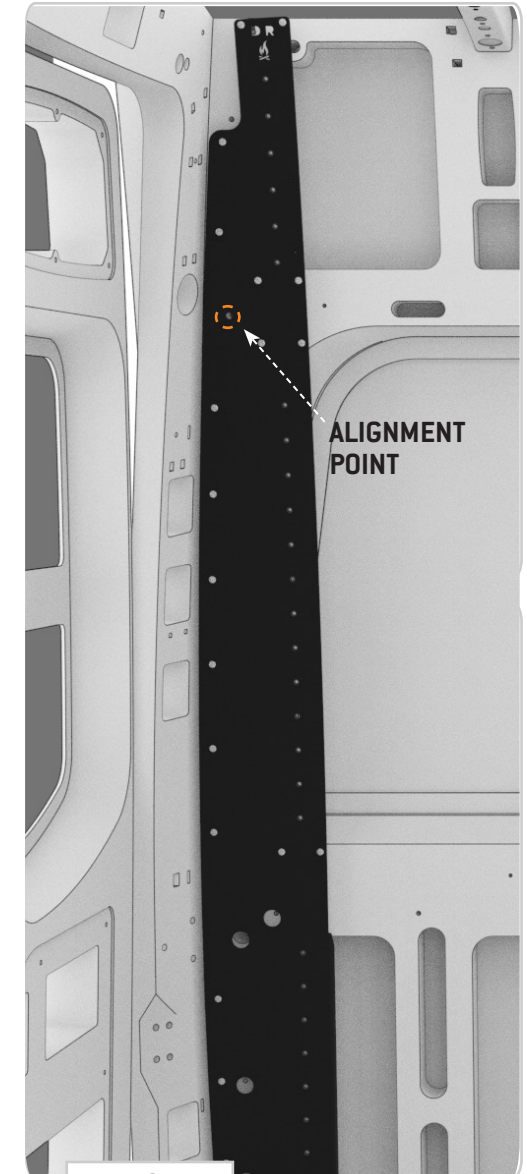

FIG 4
2.1 Align Driver Side Rear Bracket: Align the **Driver Side Rear Bracket** to the **Alignment Point** as shown in **FIG 4**.